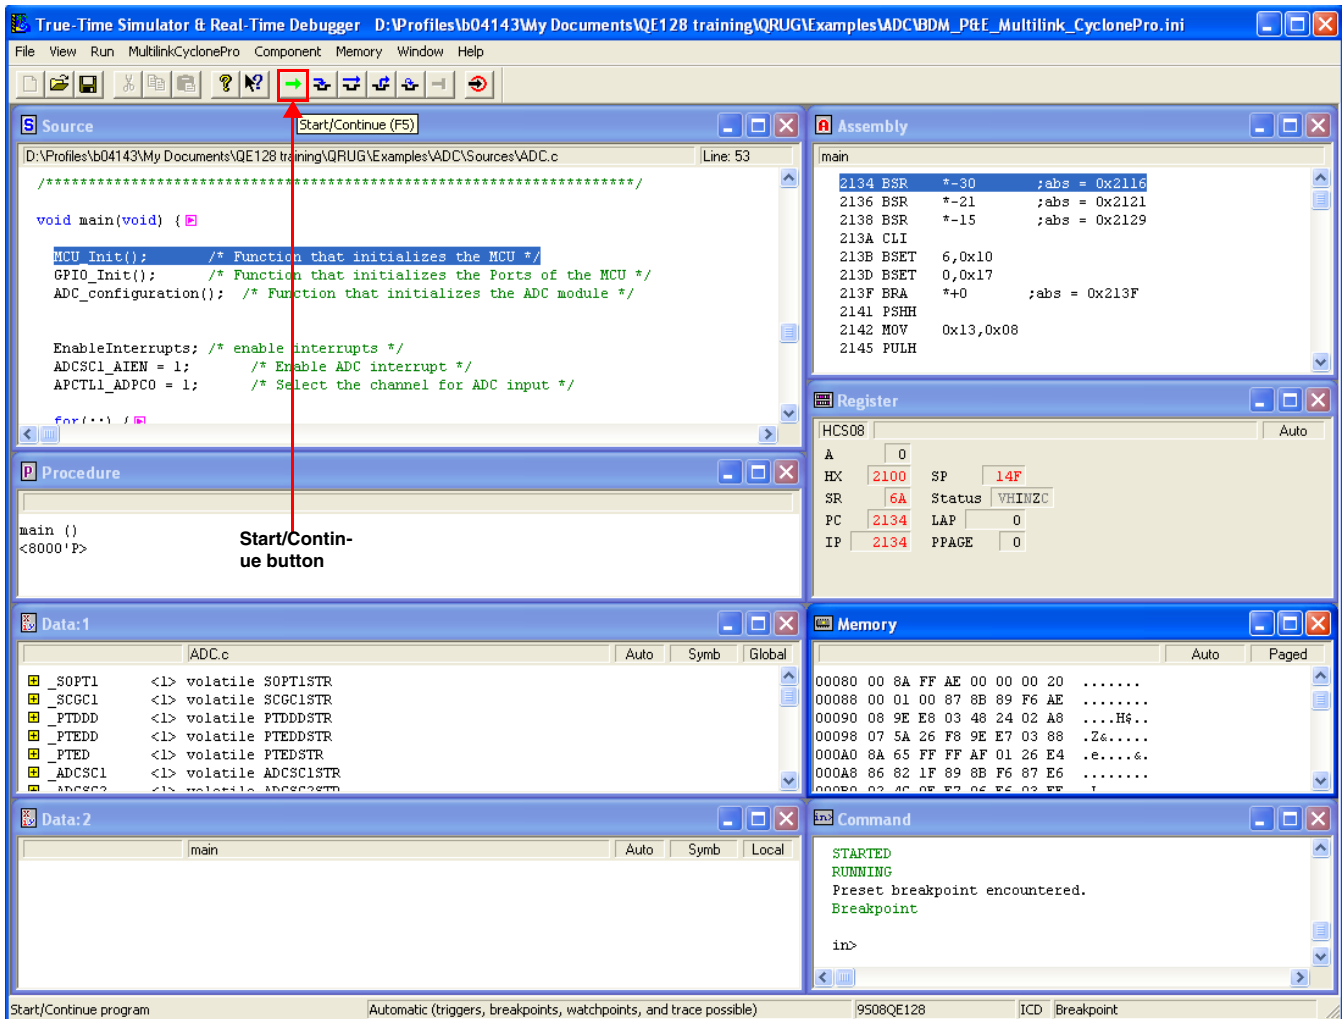

Figure 3-10. Run/Continue Icon
14. Click on the run button as shown in Figure 3-10. This figure shows the true-time simulator window or debugger window. This makes the MCU start to execute the project.